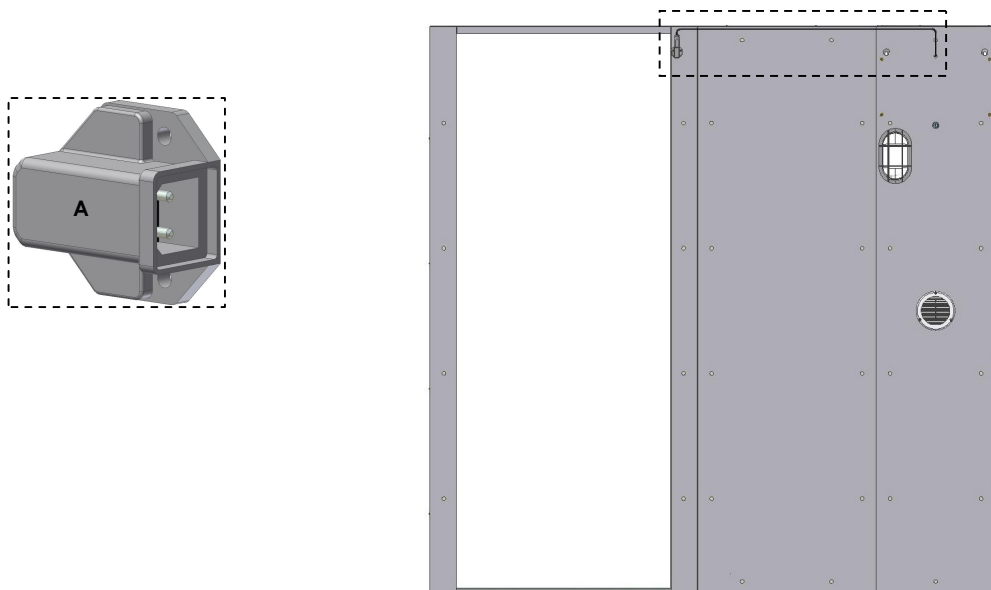

Fig. 1
- Fix the cord that you can find on the cooling unit, spare part **A** (Fig. 1).